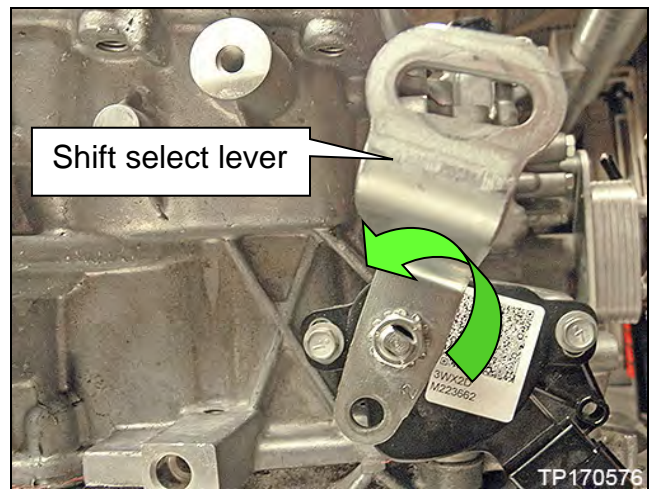
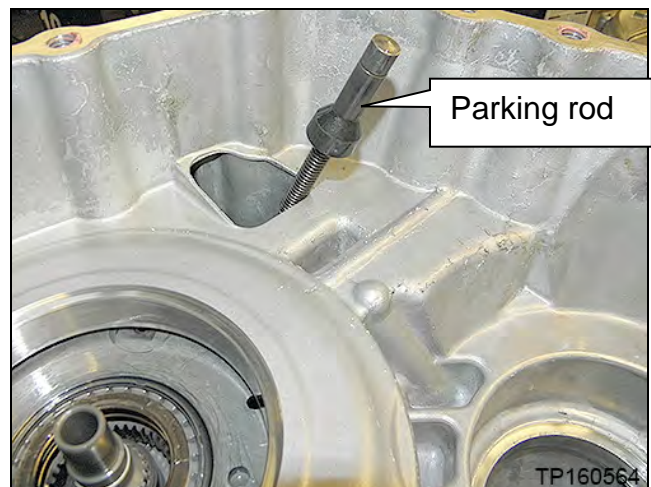

Figure 16E
Figure 17E
16. Rotate the shift select lever counter clockwise to the “L” range position (Figure 16E), so that the parking rod is at its lowest position (Figure 17E).